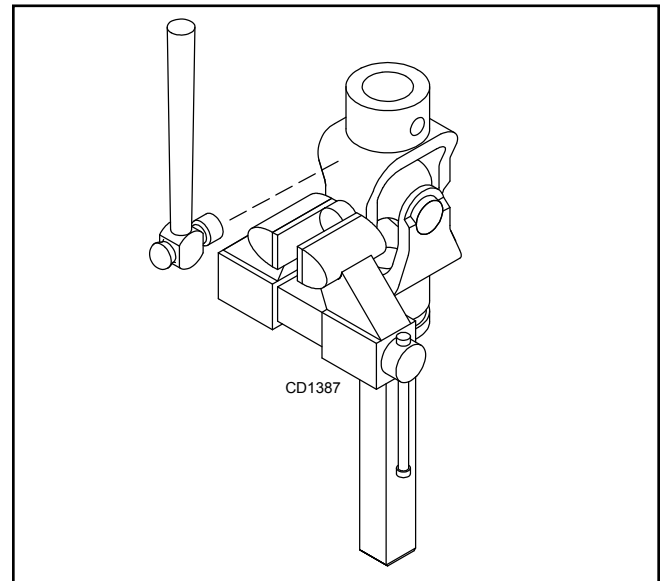

Figure 24. Remove Bearing Cups
3. Clamp cup in vise as shown in Figure 24 and tap on yoke to completely remove cup from yoke. Repeat Step 2 & Step 3 for opposite cup.